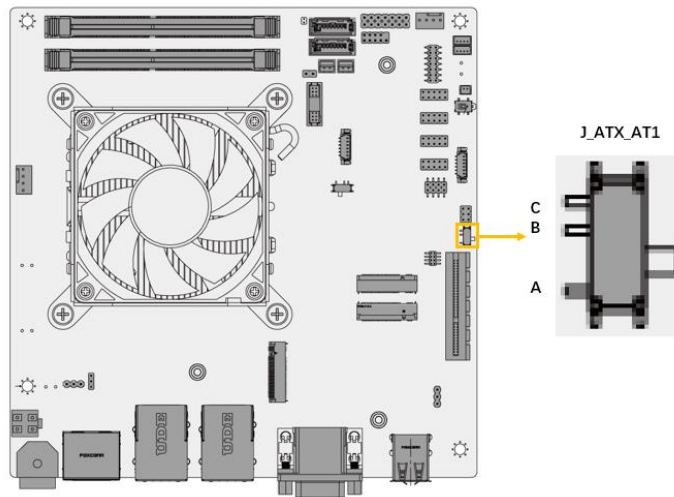

Figure 3-3: AT/ATX Power Mode Switch Location
- CN Location:** See Figure 3-3